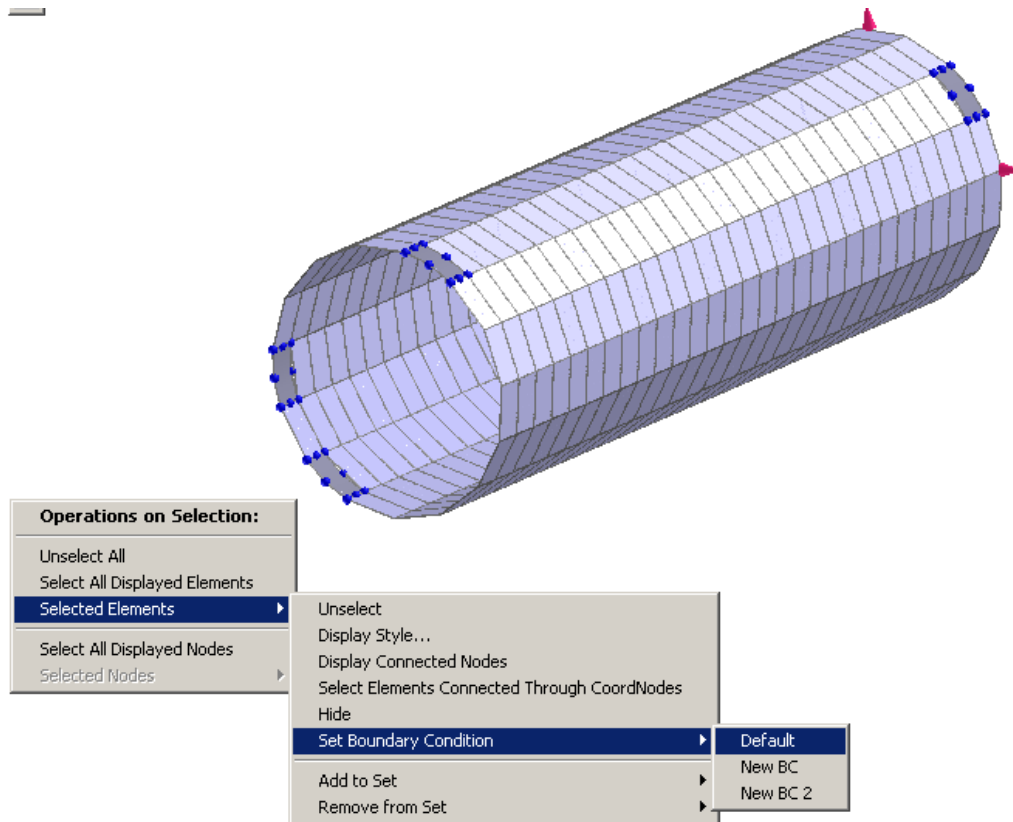

Figure 6.40: Applying boundary conditions through elements.
- Apply BC. To apply BC on all selected elements in the GUI, right-click with the *shift-key* held down and select: **Operations on Selection** → **Selected Elements** → **Set Boundary Condition** → *<Boundary Condition Name>* (Figure 6.40). Note that the boundary condition list is only visible if BCs are defined before hand.